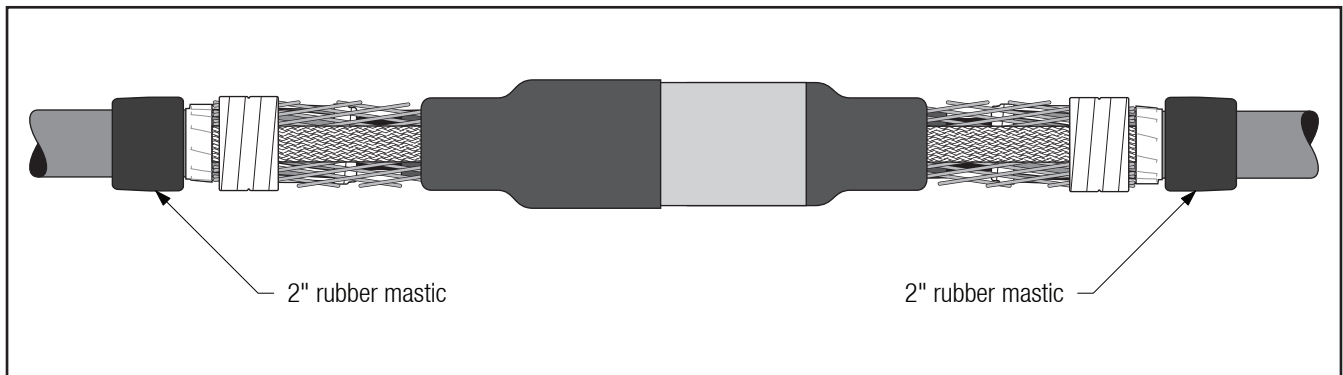
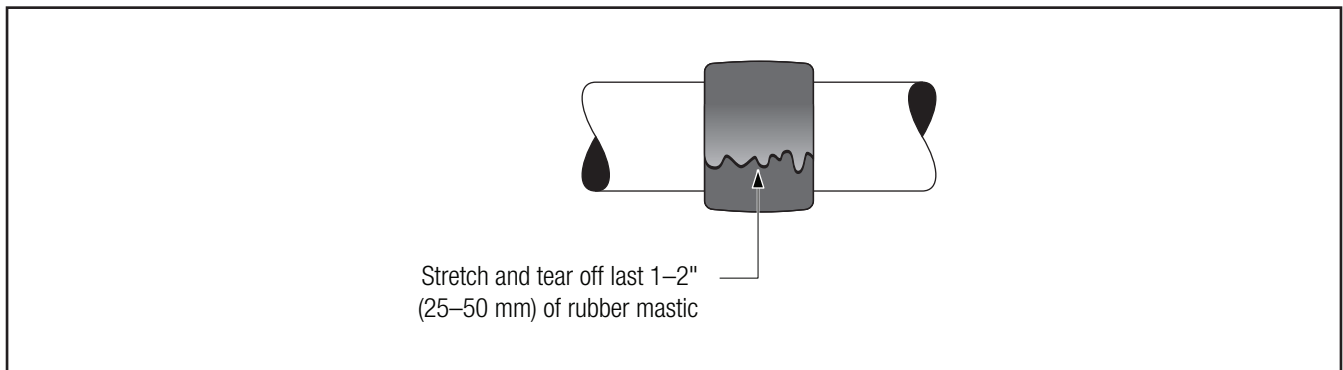

Figure 26
Figure 27
7.1 Wrap a roll of slightly stretched Scotch® Rubber Mastic Tape 2228, 2" x 36" around cable jacket at edge of cut neutrals (tacky side toward cable) (*Figure 26*). Stretch and tear off last 1–2" (25–50 mm) of mastic (*Figure 27*). If grounding was applied, apply tape over mastic strips.